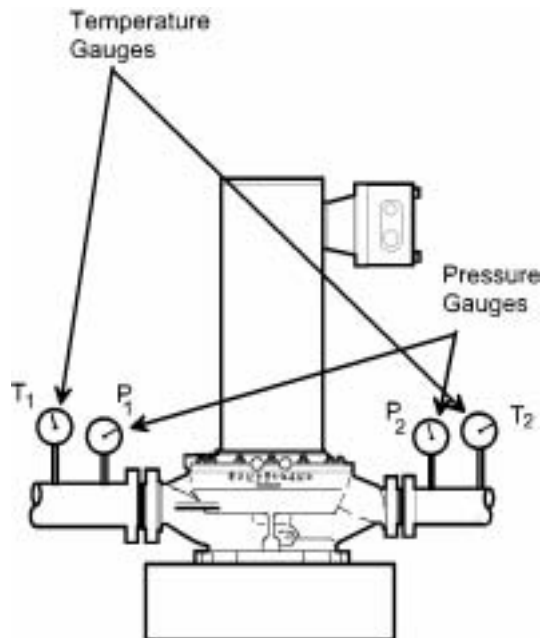

Figure 2. Typical Piping Arrangement
- H. Provisions should be made for pressure gauges in the suction and discharge piping. The gauges should be located as shown in Figure 2. The pressure gauges can be extremely helpful during start-up and are desirable for monitoring the performance of the pump.